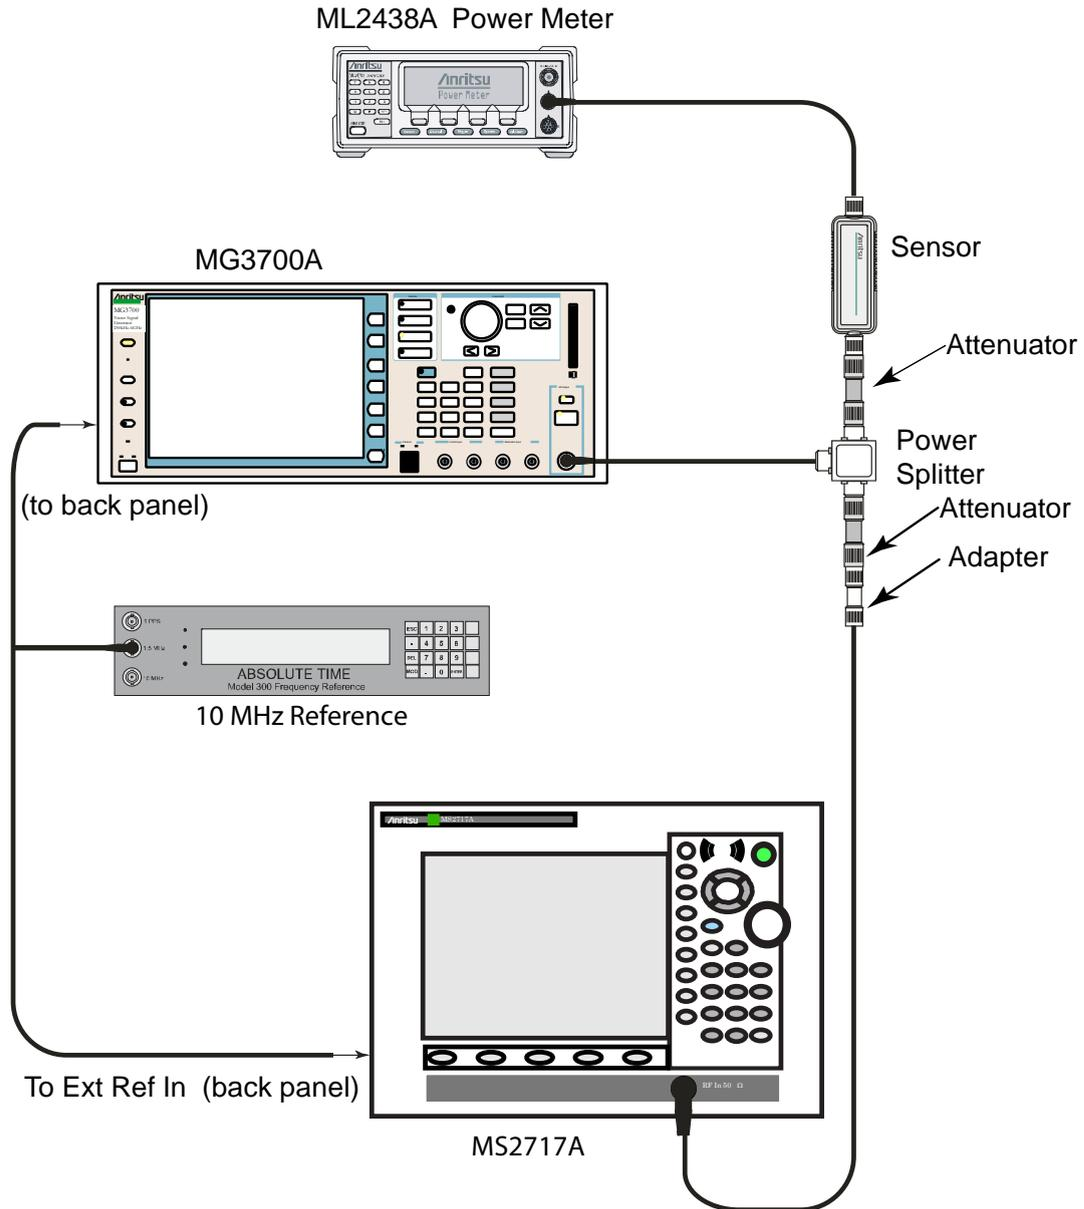

Figure 2-6. WCDMA Occupied Bandwidth Test Setup
3. Connect the MG3700A, splitter, attenuator, power meter, and sensor according to Figure 2-6.
4. To turn on the MS2717A Spectrum Analyzer, press the **On/Off** key and wait until the measurement display appears, then press the **Shift** key, then press the **Mode** (9) key to activate the mode selection menu.
6. Press the **Shift** key, the **Preset** (1) key, and then the Preset soft key.
3. Connect the MG3700A, splitter, attenuator, power meter, and sensor according to Figure 2-6 on page 2-29.